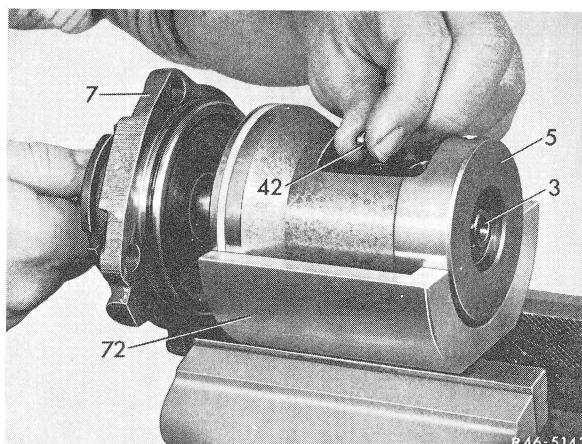

Fig. 16
15 Unclamp working piston from device and place into assembly tray (72) (Fig. 16).
16 Introduce steering worm (3) into steering nut until one ball circuit is completely shown through bore (for balls) in steering nut (Fig. 16).
17 Introduce 17 balls into ball circuit while slowly turning steering wheel to the right (Fig. 16).